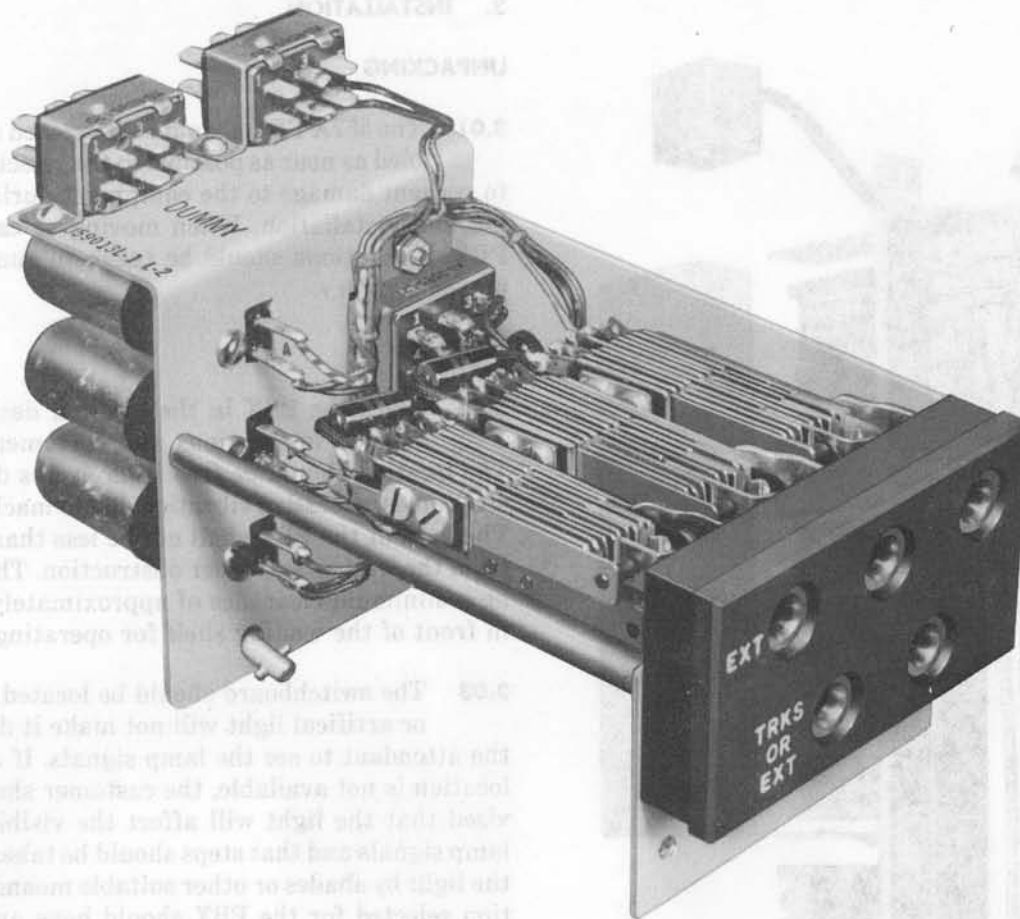

Fig. 11—J59013L (MD) Jack Unit for Manual Conference Circuit
2.13 A manual conference circuit (MD) per SD-66531-01, ordered separately and installed locally, may be used with the 557A PBX. Five conference jacks are furnished in the jack mounting face. The first three jacks are for station connections, while the last two jacks are for trunk or station connections (Fig. 11). A separate cord circuit is used for each station or trunk connected for conference. The jack mounting face is mounted in place of five central office trunk jacks. The wiring and connecting cable shall be made up and installed locally.